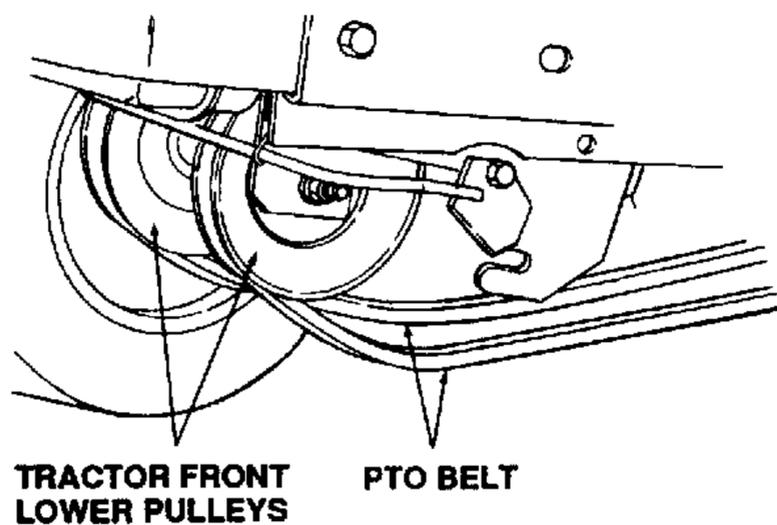

Figure 7-65. Place PTO Belt In Front Idler Pulleys
- e. Twist the PTO belt 1/4 turn to place the V-sides of the belt in the grooves of the two front idler pulleys of the tractor. See Figure 7-65.